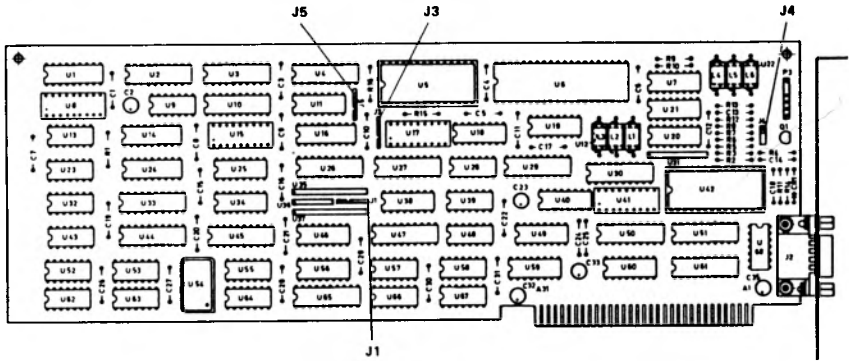

Figure 1
2. Set J1 open for color CRT, set J1 closed for monochrome CRT, see Figure 1.
Set Jumpers J3 and J5 (see Figure 1) as shown below: